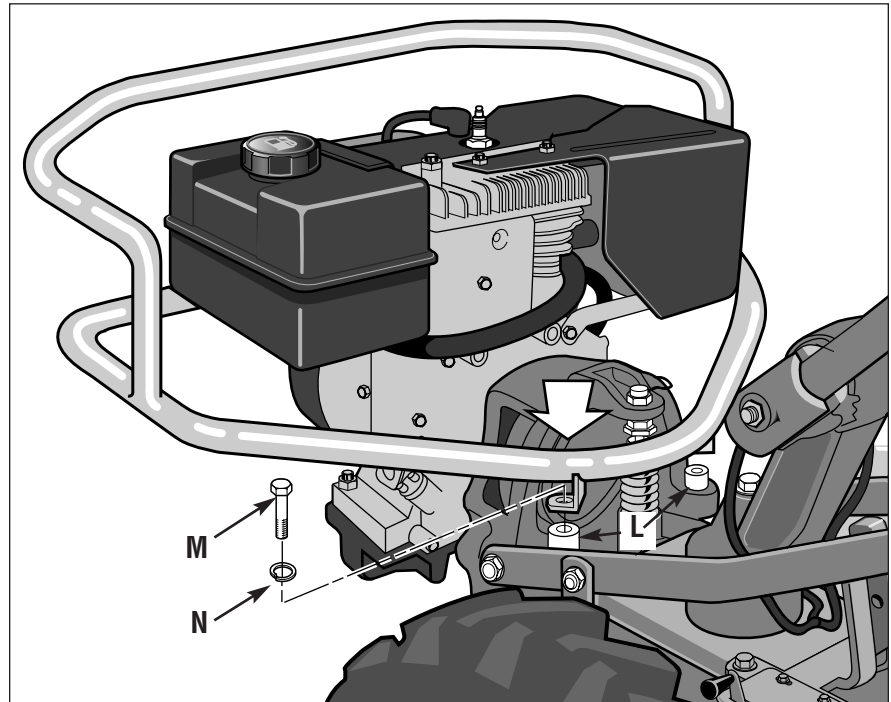
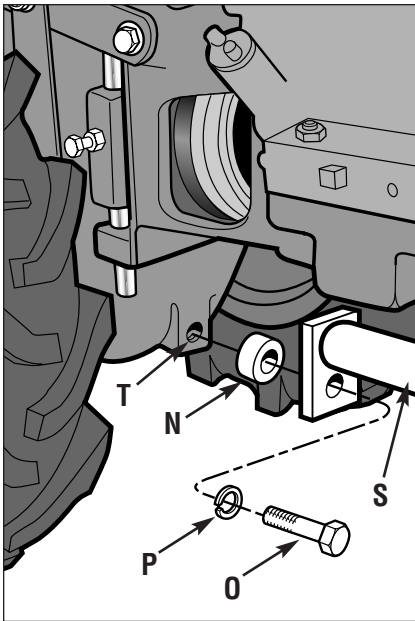
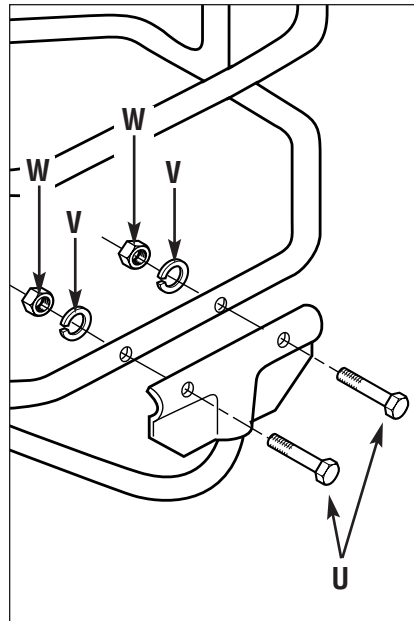

Fig. 10
Fig. 12
Fig. 13
- a.) Hold the wrap-around level and carefully lower it over the fuel tank and the air cleaner assembly (Fig. 10).
- b.) Align the holes in the L-shaped legs on the wrap-around with the holes in the tops of the two engine mounting bars (L, Fig 10).
- c.) Loosely attach the legs with two 3/8"-16 x 1" screws (M, Fig. 10) and 3/8" lock washers (N). Leave the screws very loose for now.
- b.) Hold the wraparound level and carefully lower it over the fuel tank and the air cleaner assembly (Fig. 10).
- d.) Align the holes in the L-shaped legs on the wrap-around with the holes in the tops of the two engine mounting bars (L, Fig 10).
- e.) Loosely attach the legs with two 3/8"-16 x 1" screws (M, Fig. 10) and 3/8" lock washers (N). Leave the screws very loose for now.
3. Assemble the 1/2"-13 x 1-1/2" screw (O, Fig. 12), 1/2" lock washer (P) and spacer (N) to the end of the bottom brace (S).
4. Thread the screw (O) into the threaded hole of the transmission (T). Do not tighten the screw securely at this time.
5. Loosely attach the bracket on the bottom brace to the front of the wraparound using two 5/16"-18 x 1-1/2" screws (U, Fig. 13), 5/16" lock washers (V) and 5/16" hex nuts (W).
- a.) Tighten screw (O, Fig. 12) at front of transmission.
- b.) Tighten screws (M, Fig. 10) on top of motor mount bars.
- c.) Tighten screws (U, Fig. 13) at front of wrap-around.
3. Loosen the screws (M, Fig. 10) on top of the engine mount bars and remove the screw (O, Fig. 12) on the bottom brace.
4. Remove the screws (U, Fig. 13) from the front of the bumper and remove the bottom brace.